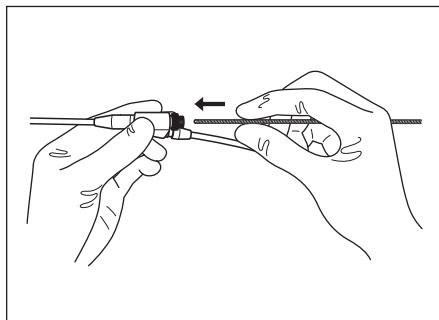

Figure 3.5
- 5.** Insert the insertion section of the industrial retrieval tool into the channel port (see Figure 3.5).